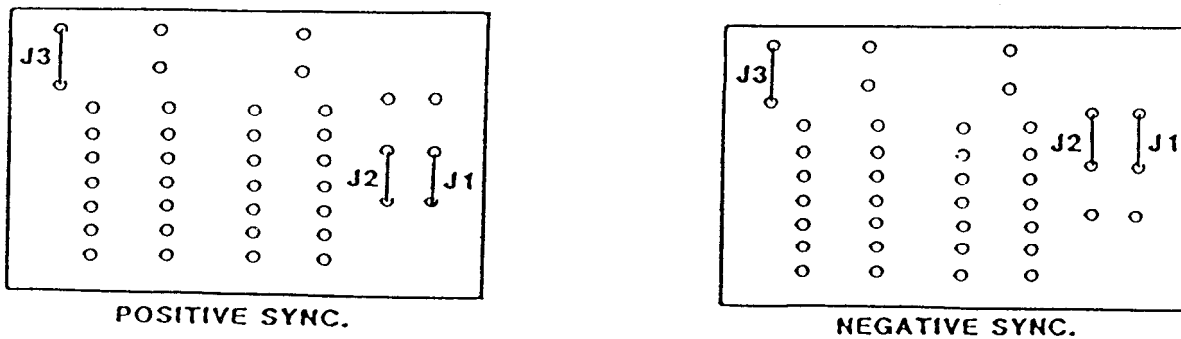

Figure 3.
Depending upon the kit you ordered, you will have either a 7-button or a 9-button control panel harness assembly. Refer to Figure 3, which shows the button layout for either type of assembly. Refer to page 5 for specific button layouts.
3. Four connectors (a white wire, a black wire, a pair of green wires and a red wire) go to each push button assembly. The green wire goes to "common" (C) blade of the micro switch, the white wire goes to "normally open" (NO) blade, the black wire goes to one side of the light bulb blades and the red wire to the other side. Wire each switch in a similar manner.
4. If retaining the existing power supply, wire the power supply as shown in Figure 3. The six wires are configured as follows:
If your monitor requires positive composite sync., remove and resolder jumpers J1 and J2 as shown in Fig 3. below.